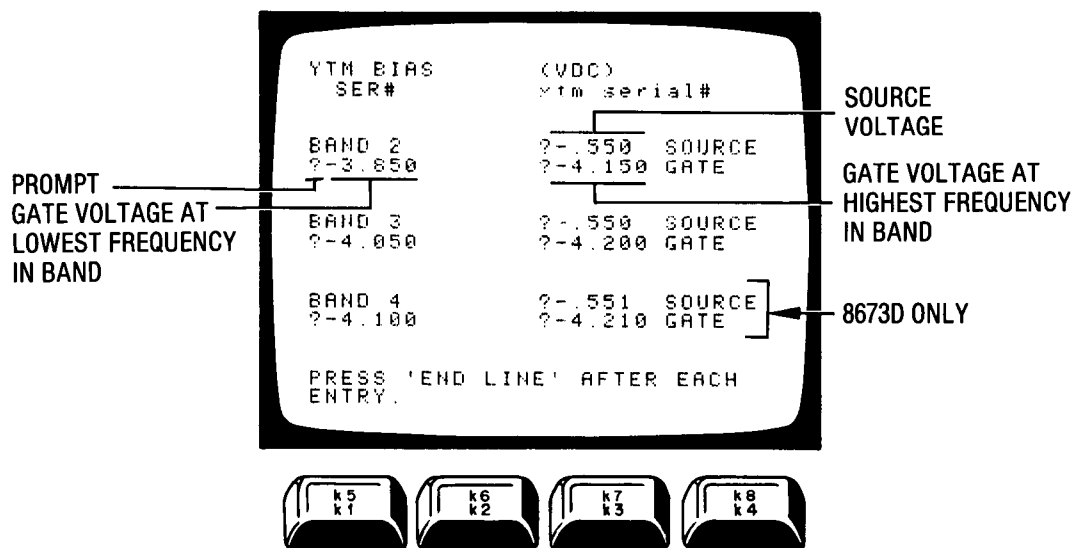

Figure 5-18. Format for Entering SRD Bias Voltages for 8673D
a. Source and gate dc bias voltage values are entered into the controller as shown in Figure 5-18. The bias voltages are listed on the YTM label located inside the Signal Generator near the A2A5 assembly on the A2 Controller chassis. The question mark (?) is used as a prompt to indicate when and where data should be entered.